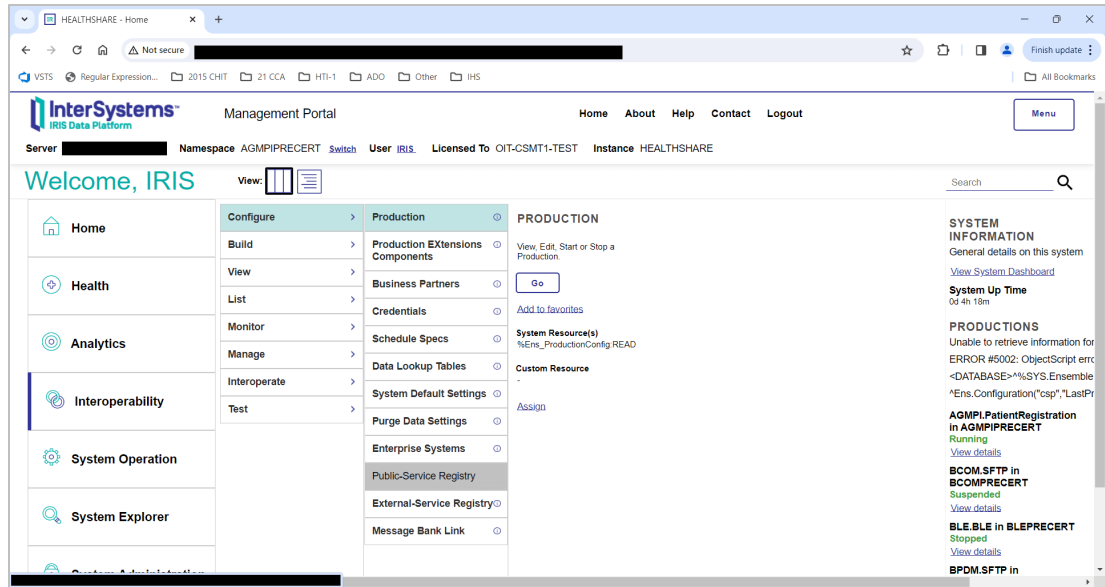

Figure 4-12: Management Portal, Production menu option
6. On the main **Management Portal** page, select **Interoperability** in the left column, then **Configure > | Production**, as shown in Figure 4-12.